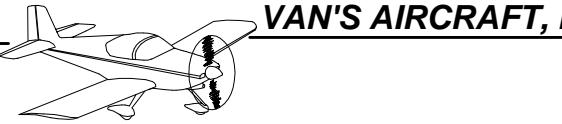

**FIGURE 2: JOINING THE FIREWALL BULKHEAD ASSEMBLY
Step 8: Rivet the Left and Right Forward Rib Subassemblies and F-1001G-L and -R Gussets to the Firewall Bulkhead Subassembly per the callouts in Page 27-5, Figure 1. Rivet the F-1048C-1 Fuel Valve Bracket to the the fwd fuselage ribs per the callouts in Figure 2. Insert the VENT DL-10 2.4° Flanged Ducts into the VA-175 Heat Duct Tee, then cleco the flanged ducts to the fwd fuselage ribs per the callouts in Figure 2.